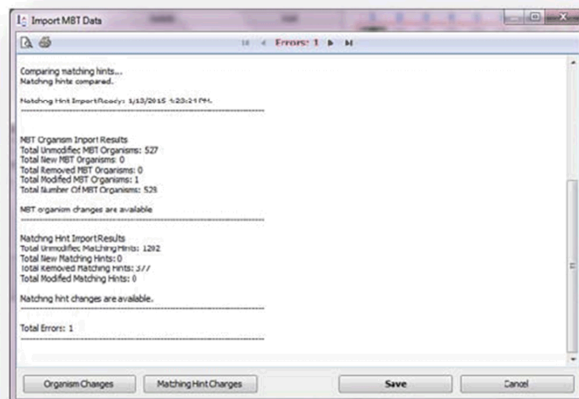

Figure 15: Organism Changes
4. If the **Organism Changes** button is active, click the button to view the MBT organism changes introduced by the import process (See Figure 15).